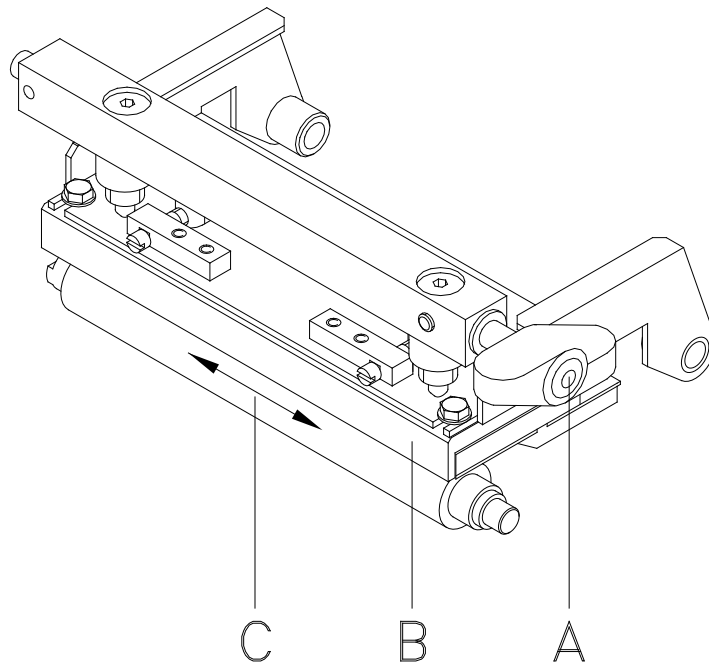

Figure 13
2. Turn lever (A, in Figure 13) counter clockwise to lift up the printhead.